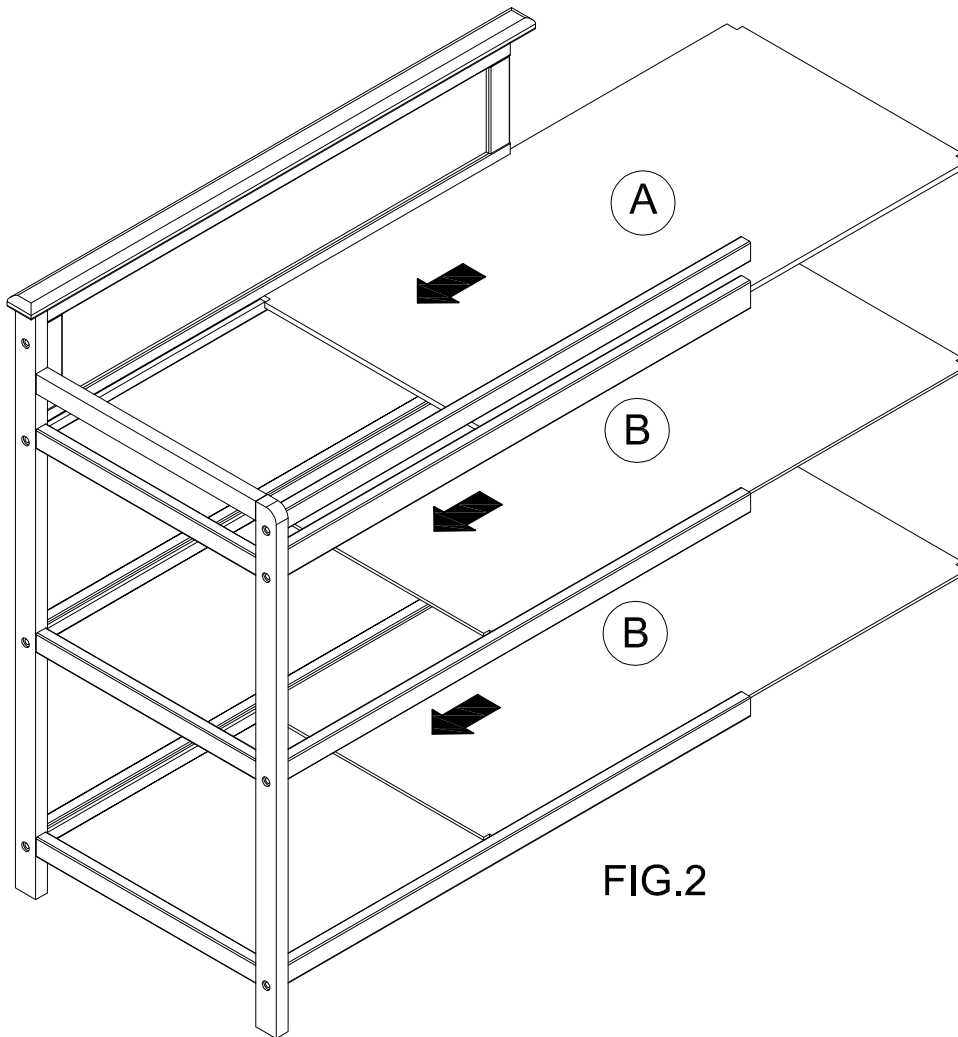

FIG.2
- A.Lay the sideboard on the floor, rails up. Make sure that the thick Shelf (A) is inserted into the Top wide grooved Rails (C). Slide the shelf through the grooves and into the sideboard.
- B.Repeat with the two remaining thin shelves (B), as shown in figure 2.